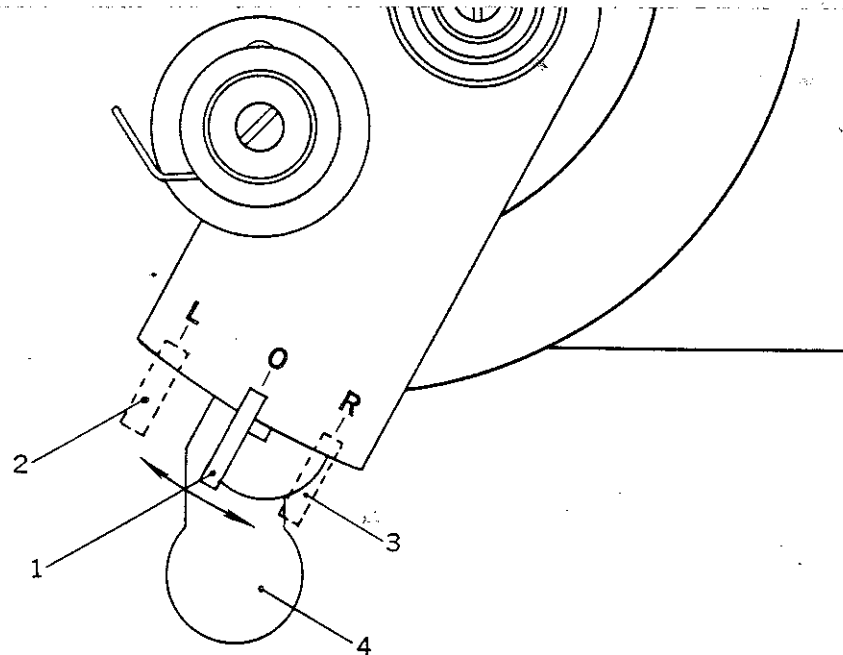

FIG. 37
NEEDLE BAR STOP MECHANISM (Fig. 37)
Pushing the needle bar change over lever (1) Fig. 37 to either position "L" or "R" will selectively suspend the reciprocating movement of either one of the two individual needle bars.